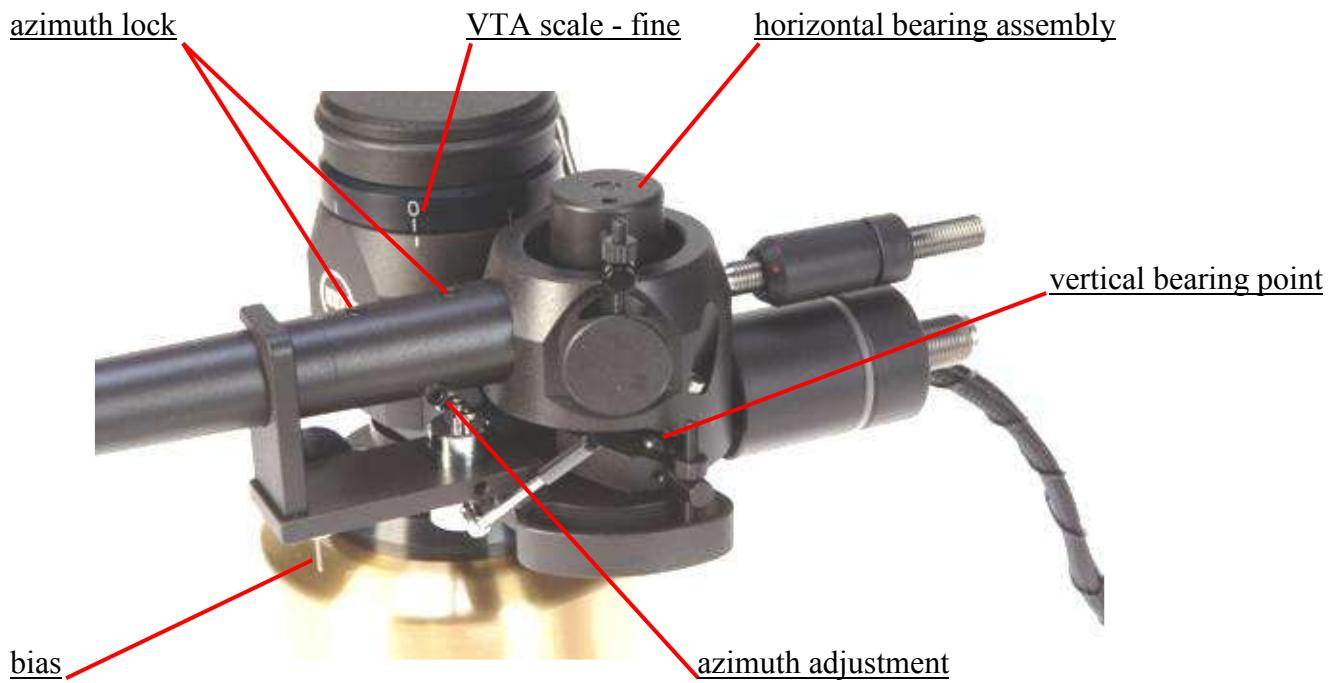

Fig. 2
Carefully take the tube assembly with cable (there is also a heavy connection box) and gently position it around the horizontal bearing assembly so that **both** two points will fit into the appropriate bearing cups. Position it into the armrest. (Fig. 2, 3A,3B,&4)
Fix cartridge pins. Add counterweights to the lower threaded carrier, starting with the longest counterweight, then a plastic ring and another counterweight, until the tonearm is roughly balanced. Be sure to fit the plastic rings that separate counterweights and, at the same time, allow them to fit together. (See Fig.2 and counterweight configuration)
If this is too loose, hold the front part of the counterweight and rotate the rear part until there is a tighter fit, or lock it into position on the threaded carrier. Opposite rotation will make the smaller counterweight looser. (Fig. 2)
To make azimuth adjustments, release the two screws locking the mechanism at the centre top of the main tonearm tube, with Allen key 2mm. Under the main tube is a tiny rod with a hexagonal screw. Insert the Allen key 2 mm into the screw (it may feel loose), rotate it slightly and it will alter the azimuth. (Fig.2)